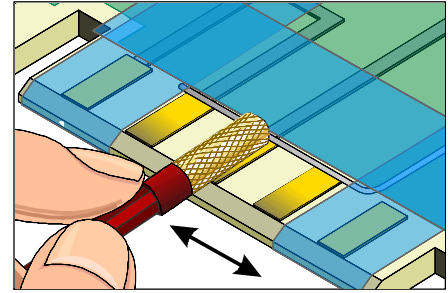

Figure 8: Swab all the contacts by brushing the surface with the saturated plating probe.
6. Swab the entire surface to be plated by brushing the surface with the saturated plating probe. The plating probe should be moved back and forth briskly to prevent burning and to provide even coverage. (See Figure 8) Swab the area for the time recommended by the equipment manufacturer. Refer to Table 1 for general voltage/time settings.